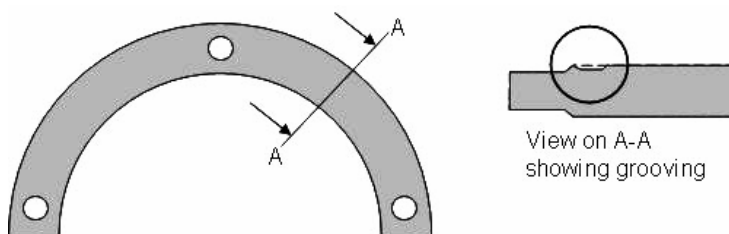

Figure 18.1: Grooving Damage to Rear Cover Plates
18.1 Prior to assembling the axlebox rear cover plates check the mating faces for evidence of wear or grooving, reference Figure 18.1. Wear or grooving above 0.2mm is not acceptable on the bearing abutment face side. It is permissible to reverse the cover plates and use the opposite face if this is not worn or damaged. Grinding or reclamation of the faces outside the drawing requirements is not acceptable.